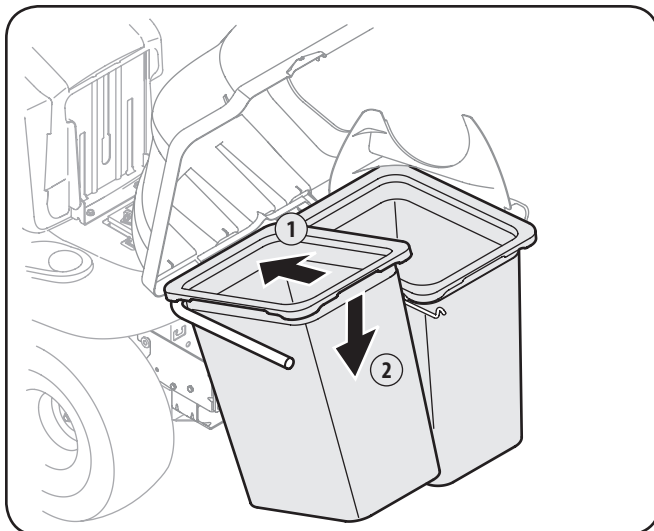

Figure 4-18
8. Install both bag assemblies with the tight mesh sides facing forward, onto the bag support brackets by inserting the front edge in first, as seen in Fig. 4-18, and setting the back edge down until it fits into the assembly.